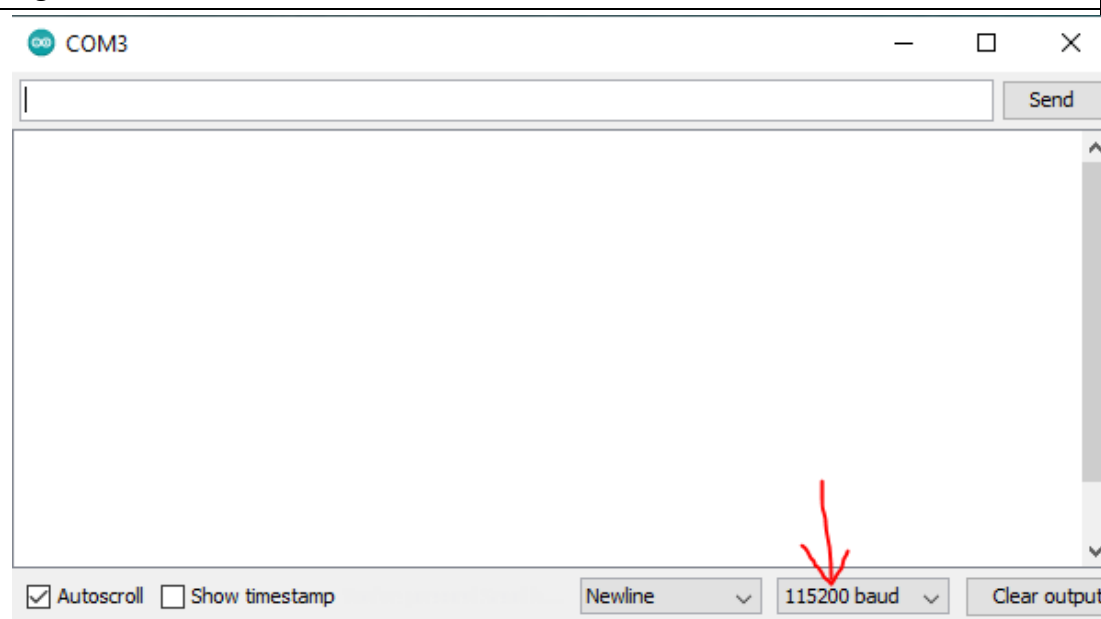

Figure-4.2 Change baudrate to 115200
2. When the Serial Monitor pop-up, change the baud rate from 9600 to 115200. (Figure-4.2)